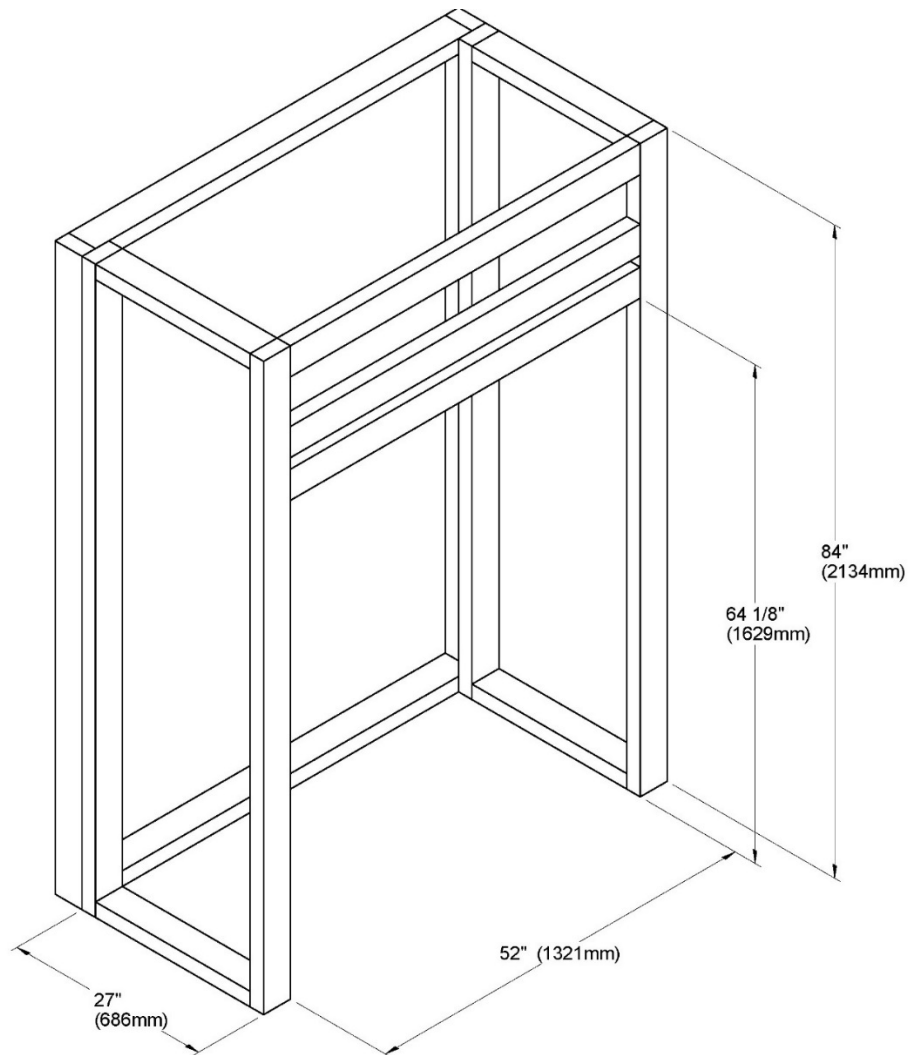

Figure 15
B. Frame the fireplace with vertical studs on each side of the fireplace running from floor to ceiling (see **Figure 15**). Position the studs back from the front edge of the fireplace, leaving a space the thickness of the facing material so that the facing can be installed flush with the fireplace facing (within limitations of **Figure 15**). Frame headers between the vertical studs only as follows: